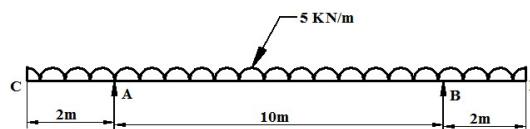

Figure 27
17. Draw shear force and bending moment diagram for the loading factor on the beam as shown in **Figure 27**. Indicate where the inflection and contra flexure points are located. Also locate maximum bending moment with its magnitude